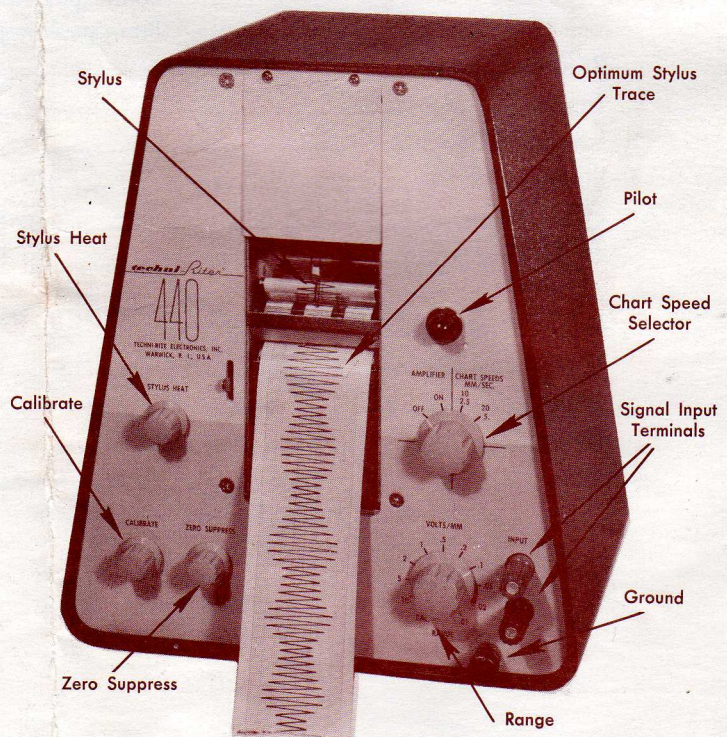

Fig. 4
1. Turn the Chart Speed Selector to the 2.5mm/sec position. Fig. 4.
2. Adjust Stylus Heat for the optimum trace on the chart as shown in Fig. 4.
1. Turn the Chart Speed Selector to the 2.5mm/sec position shown in Fig. 4.
2. Adjust Stylus Heat for optimum trace on the chart. Fig. 4.
3. Set the Range in the desired position. Fig. 4.
5. Connect your external reference signal to Signal Input Terminals. Fig. 4.